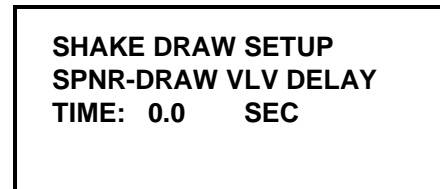

Figure 99
3. Following the SYR PMP-SPNR DELAY, the spinner motor is activated. The spinner will run prior to the draw valve opening. Recommended setting: 0.3 - 0.4 seconds. (See Figure 99.)